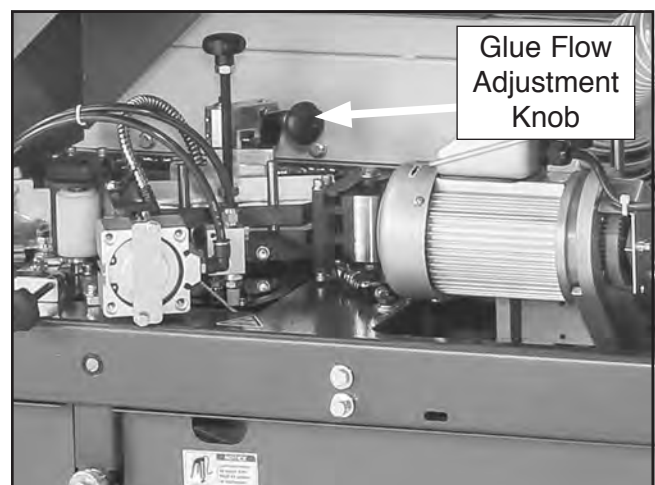

Figure 53. Location of glue flow adjustment knob.
- Rotate glue flow adjustment knob counterclockwise to increase glue flow; rotate clockwise to decrease glue flow (see **Figure 53**).